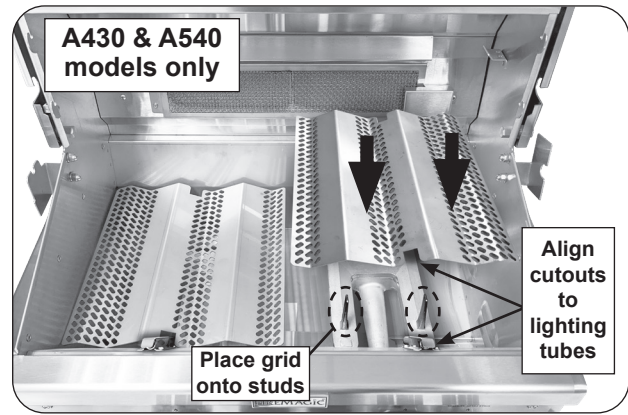

Fig. 30-1 Install flavor grids
Place the flavor grids directly onto the studs on the burners. Align the cutouts to the lighting tubes. See Fig. 30-1.
1. Take the slightly larger grids and place them directly onto the studs of the far left and far right burners. Align the cutouts to the lighting tubes. See Fig. 30-1.